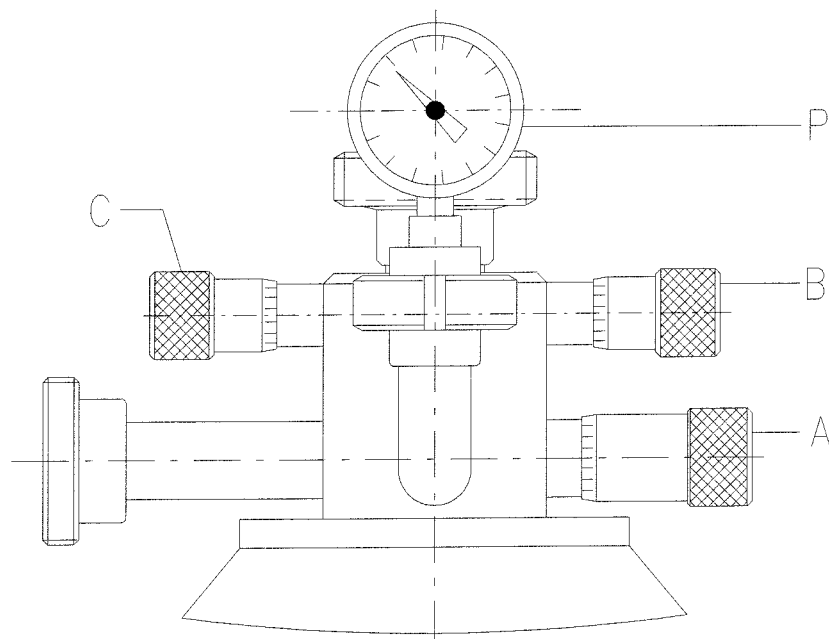

Figure 8.1
It's important to avoid air mixing with liquid, so it's necessary to immerse the centripetal pump into the rotating liquid and to have a counterpressure in outlet pipes. This is obtained by acting on the regulating valves (A, B, C in figure 8.1).
Valve (A in figure 8.1) regulate the outlet pressure of skimmed milk (the manometer P, shows the counter pressure at the outlet of the skim centripetal pump), while valve (B) permit to adjust the flow rate and pressure of the cream. To regulate the fat content of the milk (standardization), a third valve (C) has been applied in the internal channel between the cream outlet and the milk outlet. By opening this valve, some of the separated cream can be added to the skimmed milk before it leaves the separator.